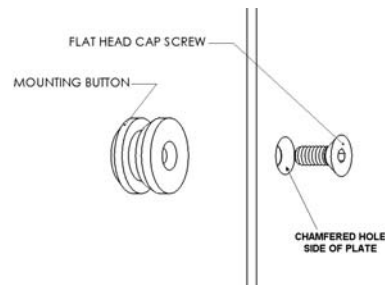
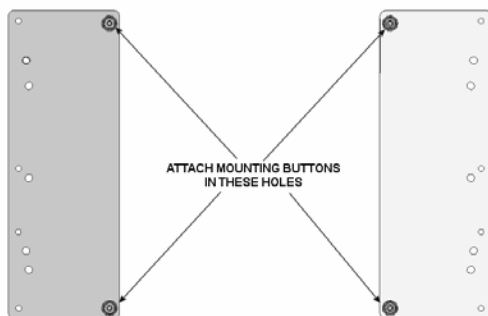

Figure 2
Figure 3
1. Using a 10-24 flat head cap screw inserted from chamfered hole side of bracket, secure mounting button (Allen key enclosed), with chamfered hole of mounting button (larger surface) facing bracket, to bracket (four places) (see Figure 2 & Figure 3).